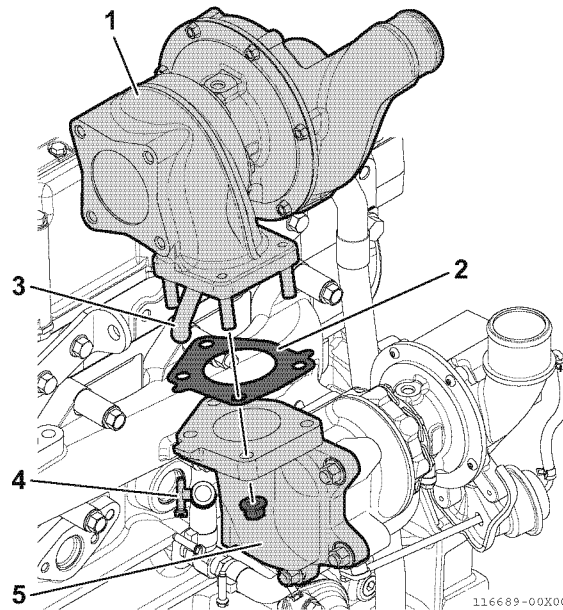

Fig.24-20
- 2 - Before installing the low-pressure stage turbocharger (upper side) (1, Fig.24-20), pour 60 cc (2 oz) of clean lubricating oil in the oil inlet port at the top of the turbocharger. Rotate the compressor wheel to ensure the shaft bearings are lubricated.
- 3 - Install the new turbocharger exhaust pipe gasket (2, Fig.24-20), then insert the lubricating oil return pipe (3, Fig.24-20) into the hose (4, Fig.24-20) and install the low-pressure stage turbocharger to the exhaust pipe (5, Fig.24-20).